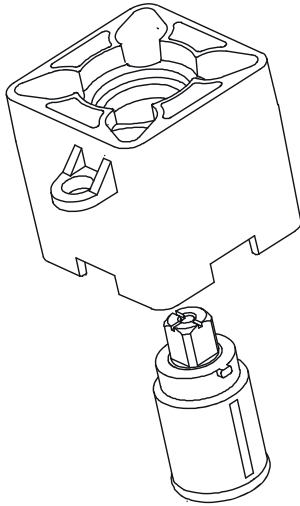

Figure 6: Installing the Drive Shaft into the Thermal Barrier
1. Install the thermal barrier drive shaft into the thermal barrier by aligning the tab on the drive shaft with the slot on the thermal barrier (Figure 6).